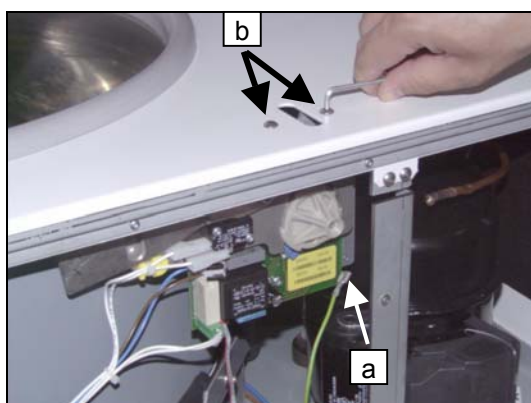

Fig. 15
- Remove the protective conductor connection (Fig. 15, a) on the lid lock.
- Undo the two screws (Fig. 15, b) each of the left and right lid lock on the upper part of the centrifuge housing and remove the lid lock.